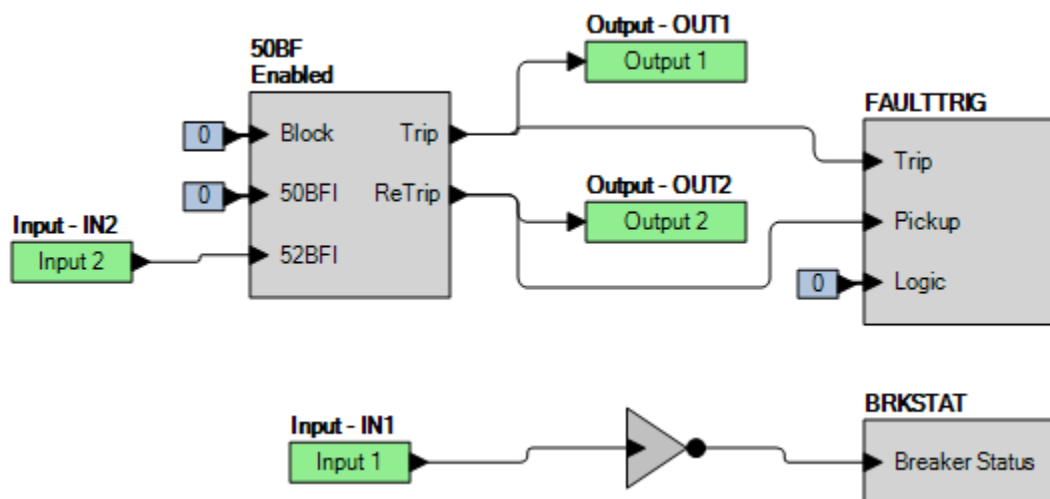

Figure 66-1. BESTlogicPlus Settings (BF152 Contact Initiate)
Step 2: Use BESTCOMSP*lus* to configure the BESTlogic*Plus* programmable logic shown in Figure 66-1.